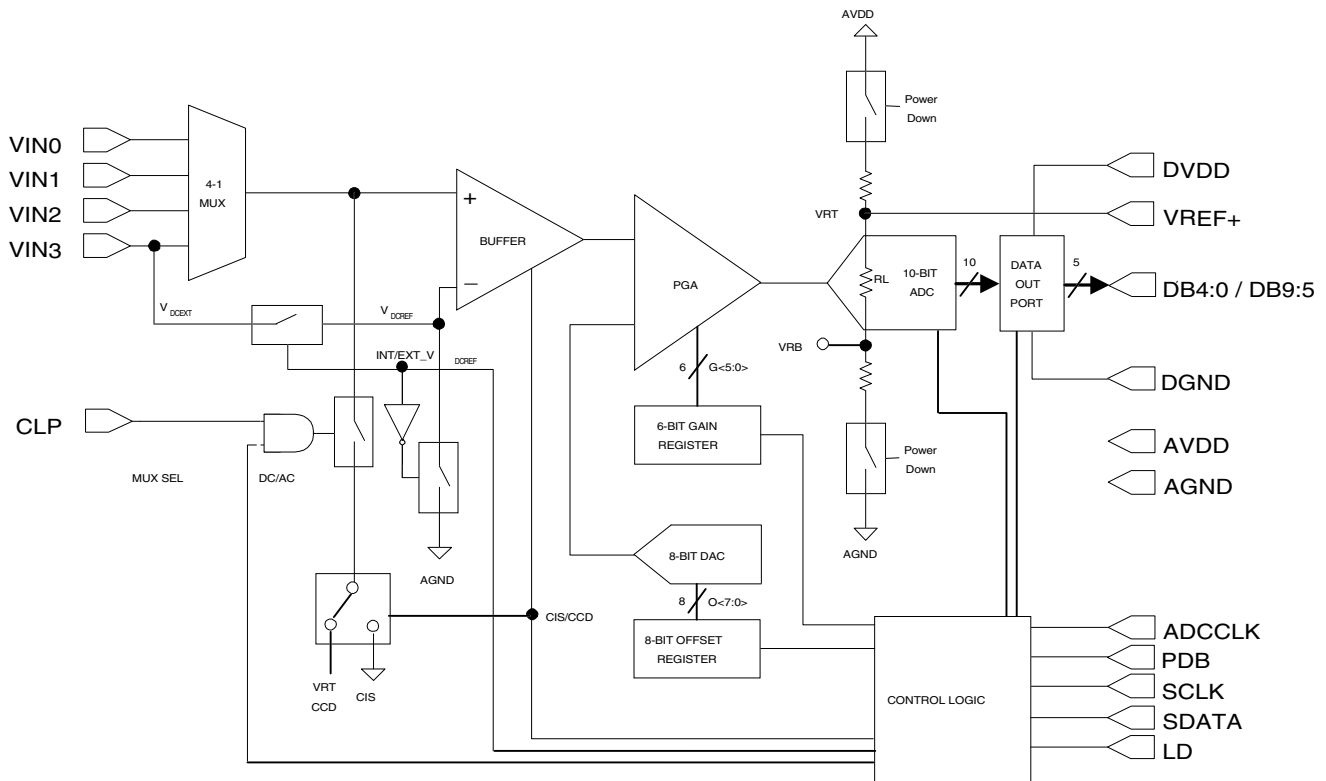

Figure 2. Functional Block Diagram of XRD9829
11. Set the dip switches located on the side panel of the scanner to 1100010000 as shown in Figure 2 and push the Serial Port button which is located on the front panel of the demo system. This will reset the XRD9829.